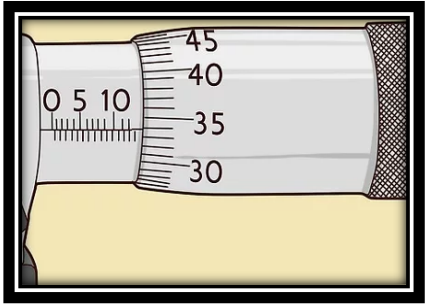

Fig 1
1. Learn the different number scales on the thimbles. (FIG 1)